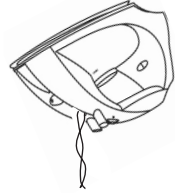

FIGURE 10
2. While the Iron is still warm, hold it over a sink and turn upside down, allowing water to drain from the Water Fill Opening (see FIGURE 10).